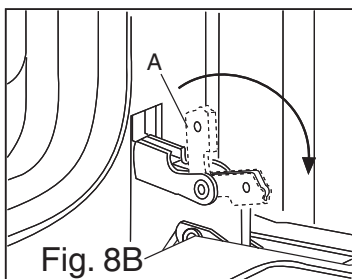

Fig. 8B
- 3) flip the hinge hooks **"A"** outwards (see fig. 8B).